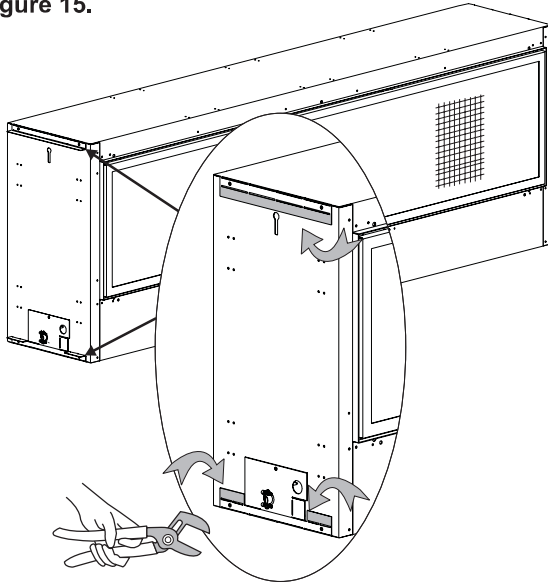

Figure 15
1. At the top and bottom of the fireplace, use pliers to bend each side standoff 90 degrees away from the cabinet. See **Figure 15**.